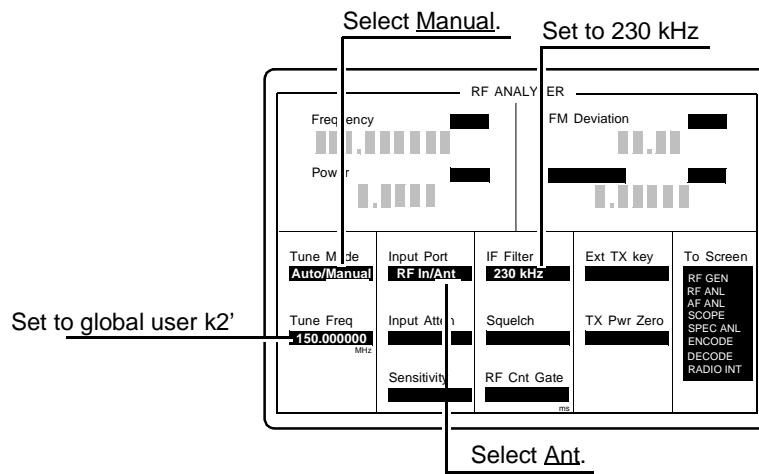

Figure 51 **Setting up the RF ANALYZER Screen**
Step 2. Setup the RF ANALYZER screen (see figure 51).